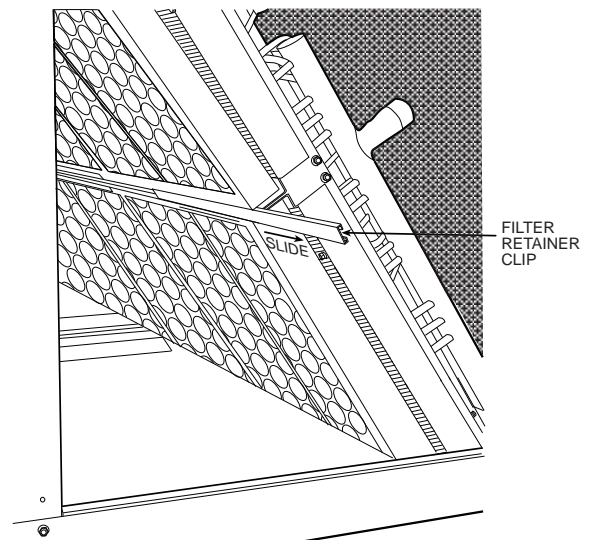

Fig. 28 — Remove Filter Retainer Clip
- Remove the filter retainer clip (see Fig. 28).